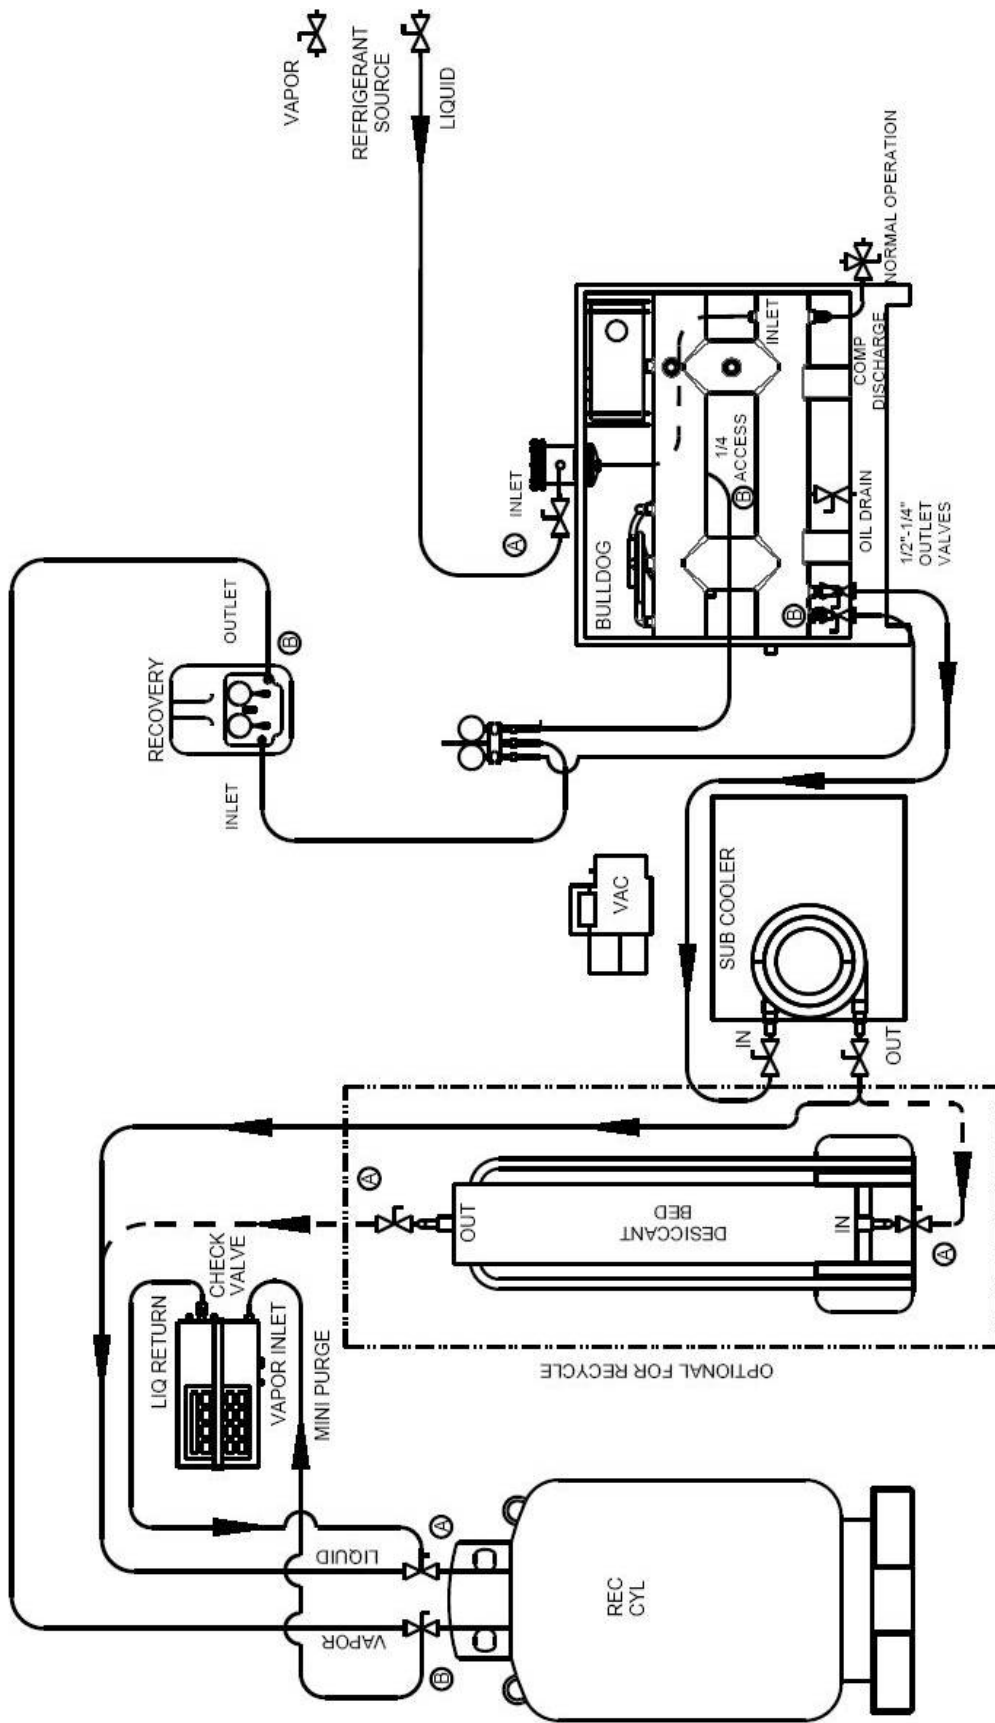

FIGURE 6: RECYCLE
7. Close Liquid valves on recovery cylinder and refrigerant source close Isolation valves on Hoses (FIGURE 6) (A)
8. Unit must be recovered to prevent any loss of Refrigerant. By connecting manifold set to 1/4" access ports and to a small recovery unit as shown in Figure 6 (B)